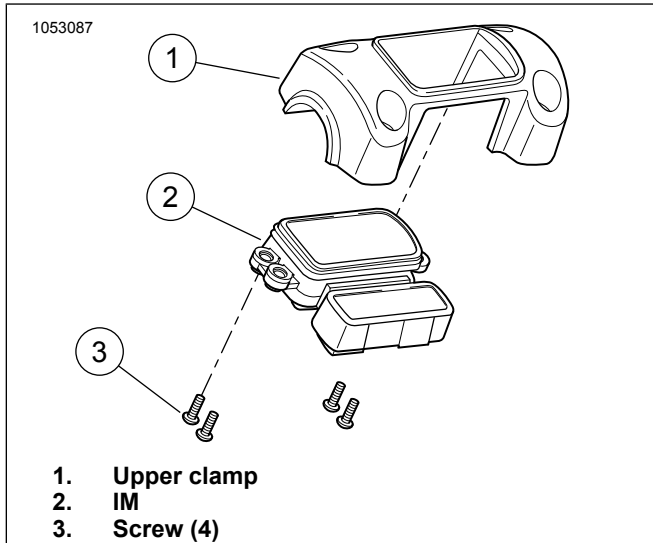

Figure 2. IM: FXBB, FXBR, FXBRS
1. See Figure 2. Remove Instrument Module (IM) (2).
- a. Remove and discard OEM screws (3).
- b. Remove IM from upper clamp (1).